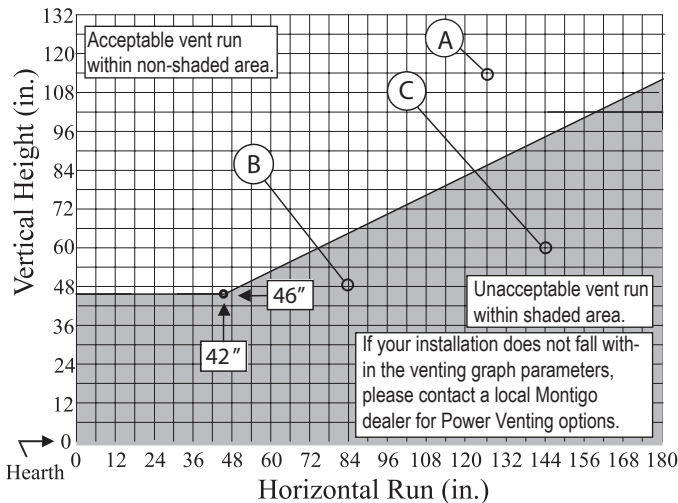

Figure 12. H38PF* or HL38PF* Top Vent Venting Graph for wall mounted terminations.
- Once the proposed venting layout has been determined refer to **Figure 12, 12a, 14, or 14a** to ensure the layout is acceptable.
- Venting runs *must* fall within the limits set by the venting graph, see **Figure 12 or 12a**.
Measure the vertical height from the fireplace hearth to the centre of the termination and the horizontal run from the fireplace flue collar to the wall flange of the termination. Plot on the Venting Graph **Figure 12 or 12a** with an 'X'.
Figure 13. H38PF* or HL38PF* Top Vented, wall mounted installation with one 90° bend. The vent run must comply with Venting Graph for Top vent, wall mounted terminations, Figure 12.
Figure 13b. H38PF* , HL38PF* or HP38PF* Top Vented, wall mounted Multi-elbow installation. See Venting Graph for Top vent, wall mounted terminations, Figure 12 or 12a.
Figure 13b. H38PF* , HL38PF* or HP38PF* Top Vented, wall mounted Retracted Multi-elbow installation. See Venting Graph for Top vent, wall mounted terminations, Figure 12 or 12a.